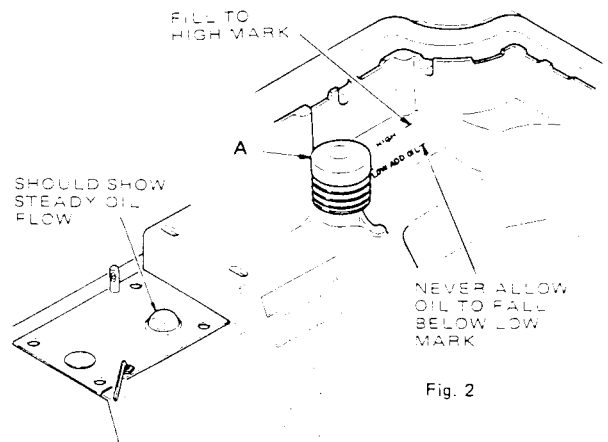

Fig. 3
- Run machine at slow speed and check oil flow through oil flow window. Correct lubrication is indicated by continuous stream of oil passing the oil flow window. Should this oil flow become erratic, stop the machine and do not run the machine again until the cause has been determined and corrected. (Fig. 3)